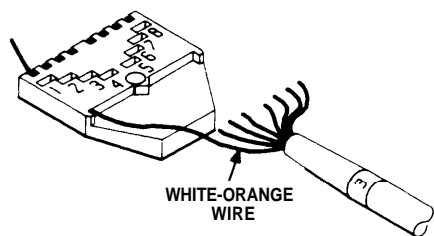

Figure 2
3. Insert the white-orange wire in channel number 1, and bend the wire up in the notch so that the wire does not slide out (see Figure 2).